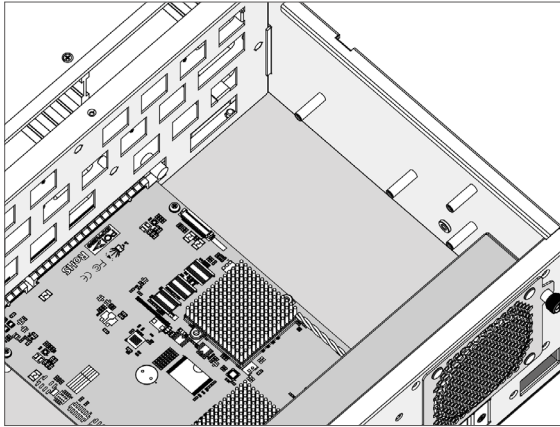

Figure C-5, Removing the Cover
1. Loosen the screws and remove the cover from the ARC-7216 enclosure, as shown in Figure C-5.